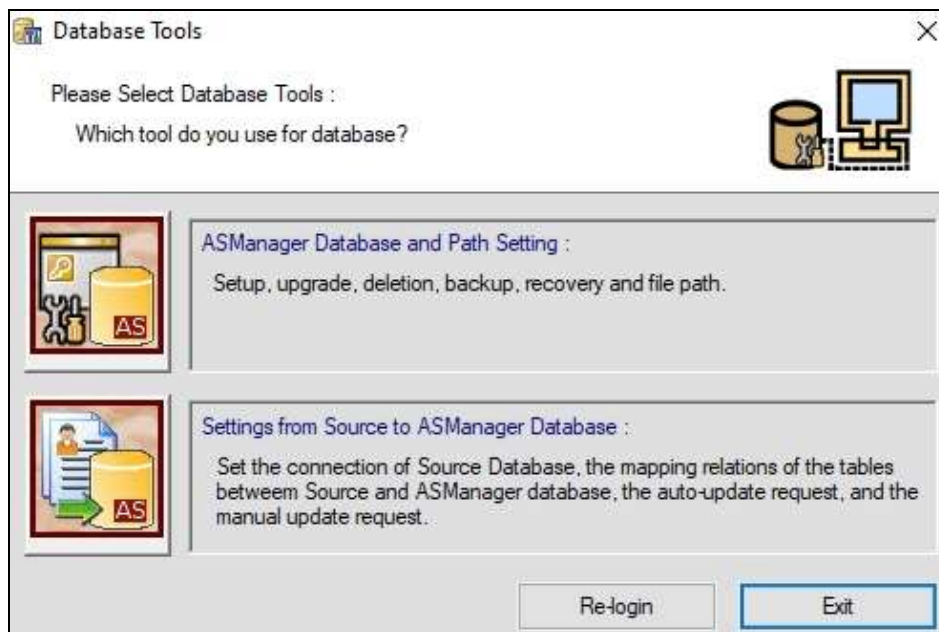

Figure 17-1
1. On the Database Tools dialog box (Figure 17-1), click **ASManager Database and Path Setting > Setup MDB / MSSQL Database for ASManager**. This dialog box appears.
You can upgrade, delete, back up, restore, and compact the database of GV-ASManager. Select **ASManager Database Setting** on the Database Tools dialog box (Figure 17-1) to have the following functions.
The Source Database function can convert **OLE DB, Active Directory** database and **excel** files into GV-ASManager (Microsoft Access or SQL Server) database. Click the **Setting from Source to ASManager Database** button on the Database Tools dialog box (Figure 17-1). This dialog box appears.